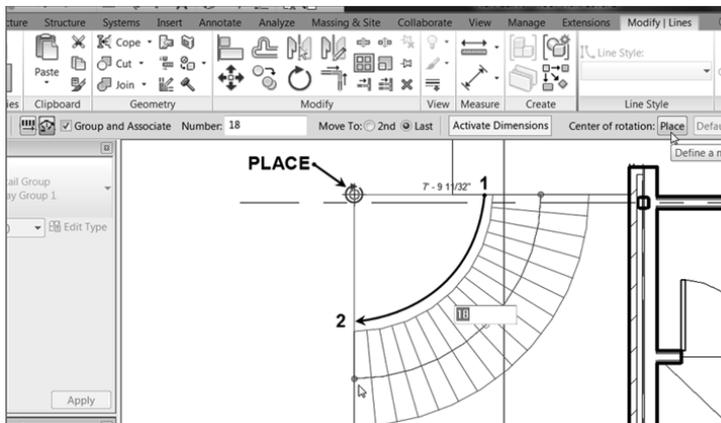

FIGURE 10.40 : Arraying the line to create your own treads
3. Select the line at the left end of the arcs, as shown in Figure 10.40.